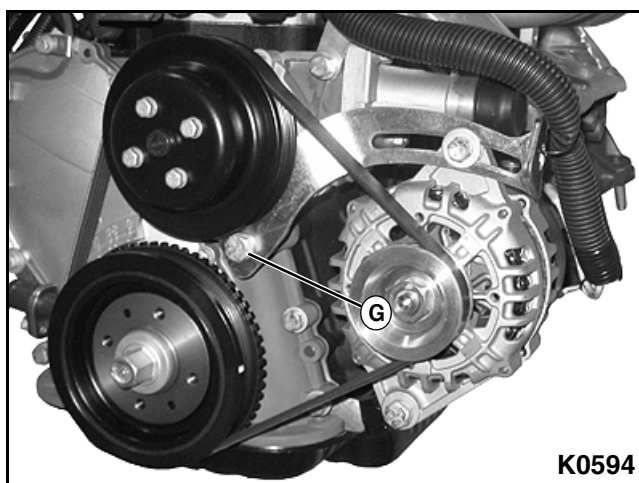

Figure 3-8
Bolt (G) securing the upper alternator bracket is also a water pump mounting bolt and must be torqued to specification. **See Figure 3-8.**
9. Torque upper alternator mounting bracket bolt (G).